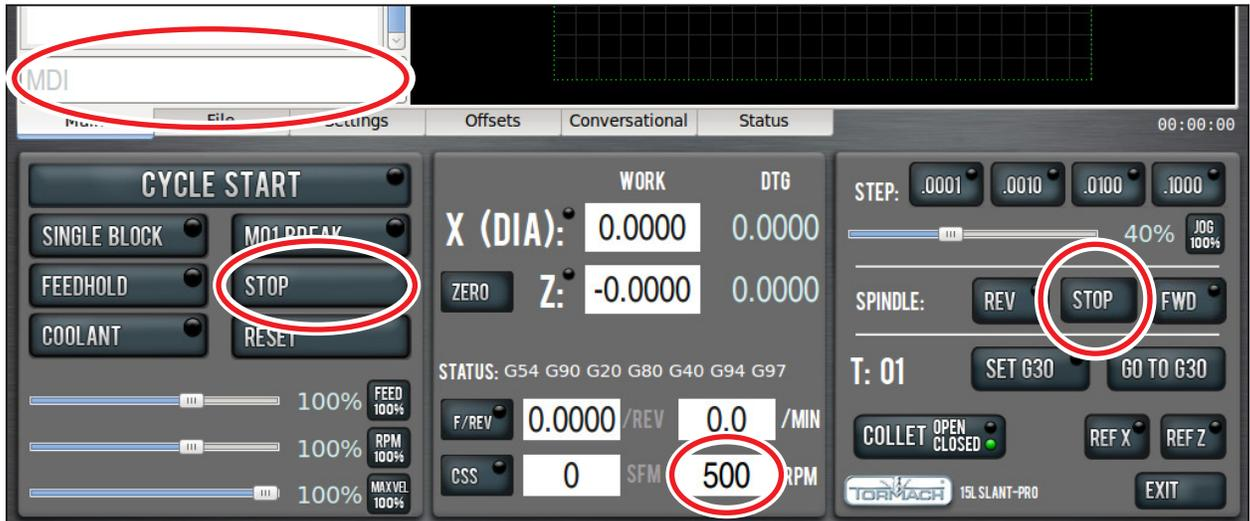

Figure 4.13
5. Adjust spindle speed to 500 RPMs – either by entering 500 in the RPM DRO and clicking FWD or by typing G97 M03 S500 in the MDI line (see **Figure 4.13**).
8. Stop the spindle by clicking either Stop or Spindle Stop, or by typing M05 in the MDI line (see **Figure 4.13**).